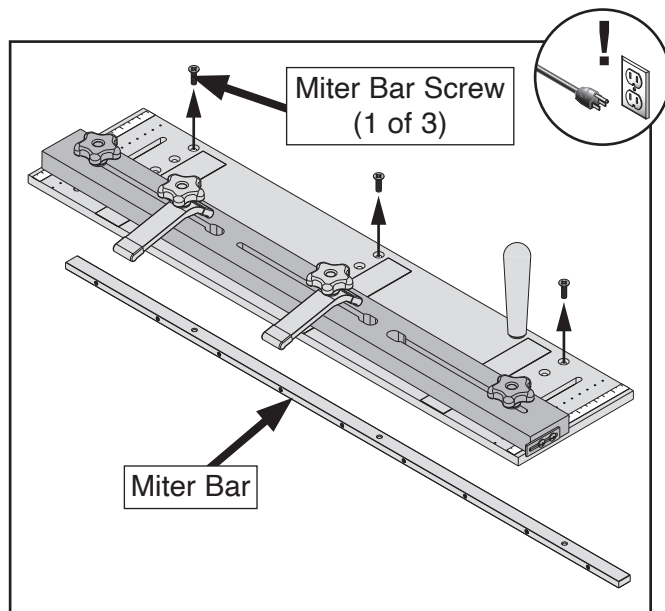

Figure 21. Removing miter bar.
3. Remove (3) miter bar screws shown in **Figure 21** to remove miter bar.